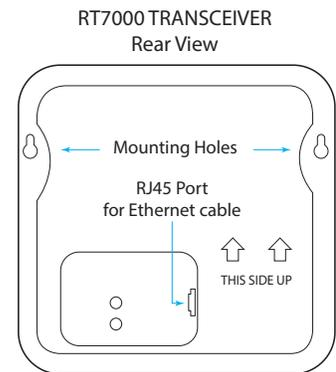
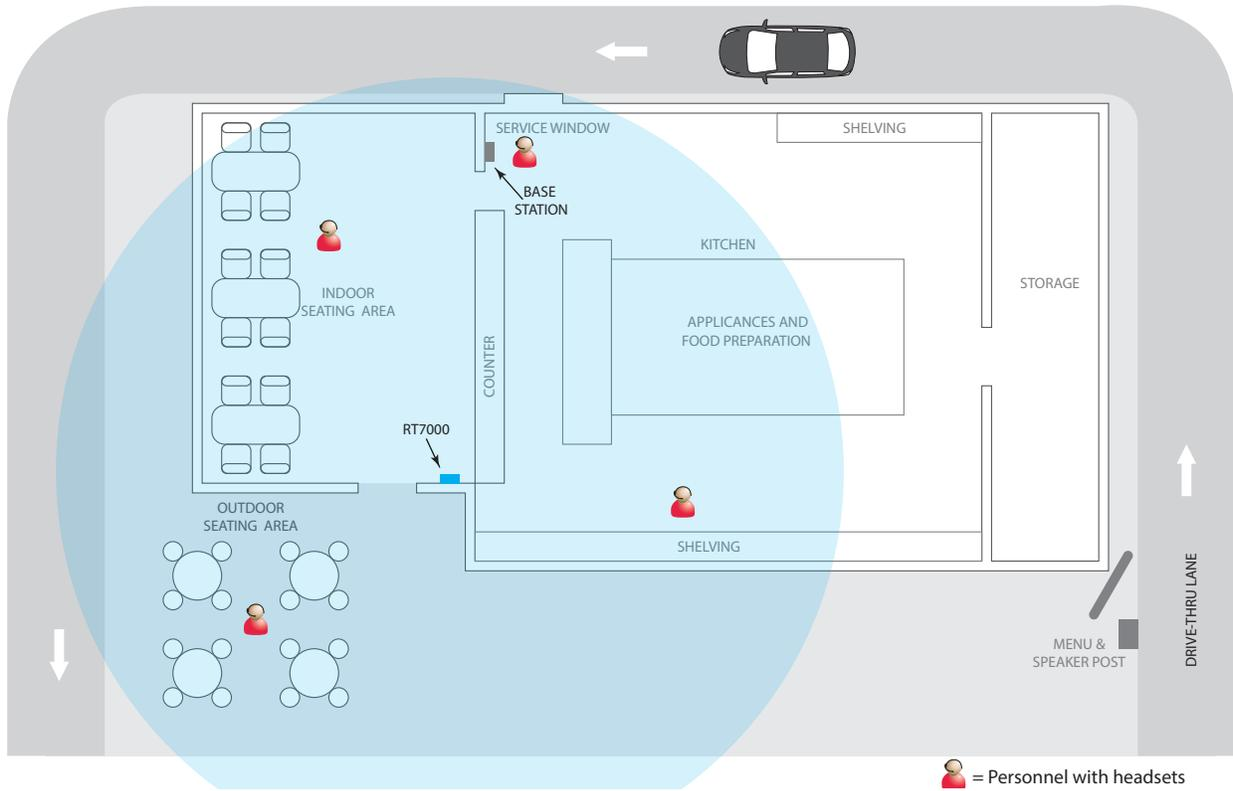

Fig. 2.4
Fig. 2.10
- Finding a good location for the remote transceiver is critical (see Fig. 2.10, and 2.11). Also read about the “Remote Transceiver (RT7000)” on page 14 under Component Notes and review the Critical Steps in these following instructions.
4. Mount the power supply. Mark the mounting location on the wall through the mounting holes on each side. Mount the power supply using the hardware provided. Terminate the power supply to the Base Station (see "Wiring Diagram's" Fig. 2.10, 2.11 and wiring connections on page 5).
5. **Critical Step:** Loosely mount and connect the RT7000 (Fig. 2.4 & 2.5) in a central location for optimal coverage (until range tested in steps 9 & 10 with the Installation Wizard). For example, notice Fig. 2.10 and 2.11. They show two different store layouts with specific targeted areas where the headsets are primarily used. In these examples, the location selected for the RT7000 (represented by the small blue rectangle) offered the best coverage indicated by the blue circled areas. Each store required the RT7000 to be mounted in a different but central location to provide the best all-around coverage unique to the store's need. Store layout and obstructions also affected placement and range. (see "Component Notes" on page 13 for more details on the RT7000 placement).